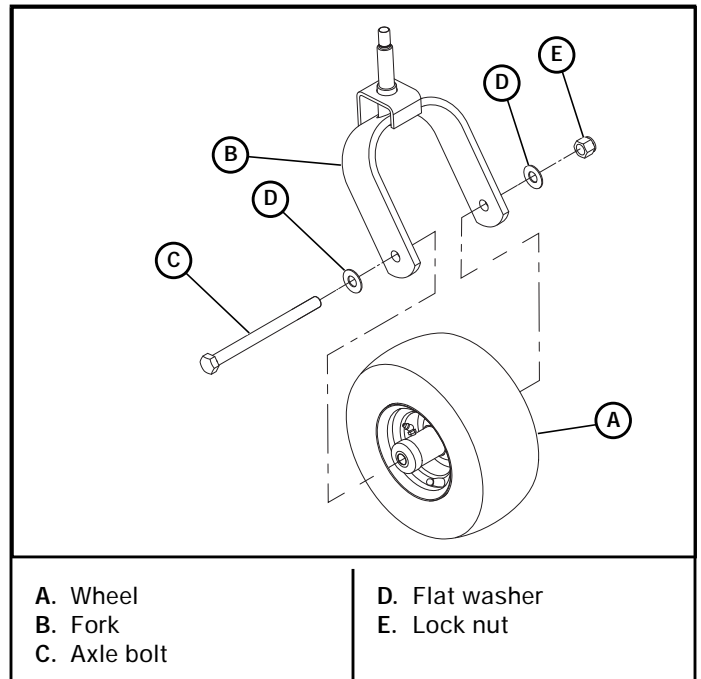

Figure 4-18
- Remove the wheel from the fork by removing the axle bolt, flat washers, and lock nut. Figure 4-18